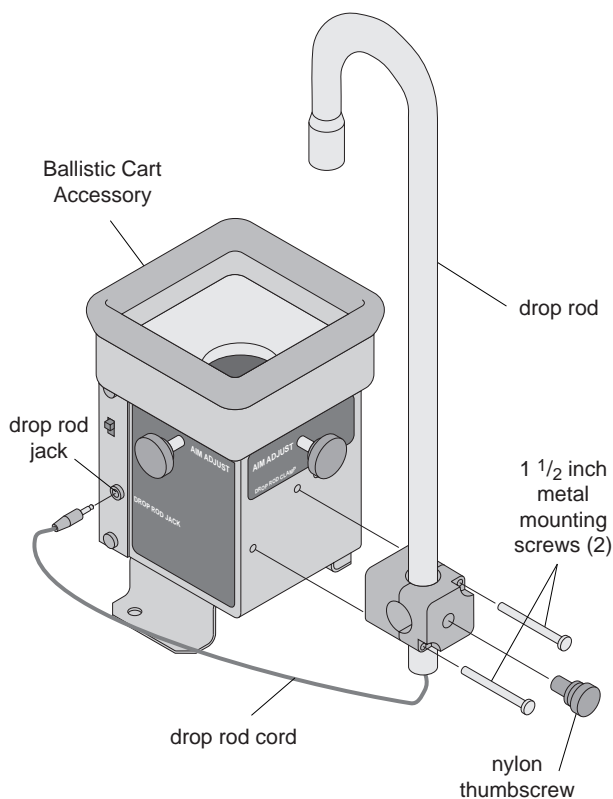
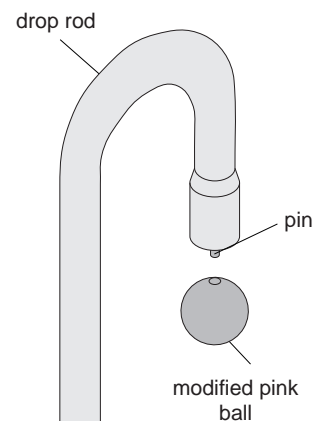

Figure 4: Drop Rod Installation.
Figure 5: Ball and Drop Rod
- ① Use the 1 1/2 inch metal screws to fasten the drop rod clamp to the side of the Ballistic Cart Accessory. See Figure 4. Screw the thumb screw into the end of the drop rod clamp.
- ② Thread the cord from the drop rod through the drop rod clamp and clamp the end of the drop rod by tightening the thumb screw.
- ③ Plug the drop rod cord into the drop rod jack on the side of the Ballistic Cart Accessory.
- ④ Note that the Drop Rod Accessory requires a special ball that has an iron insert. The balls for the Drop Rod Accessory and the Ballistic Cart Accessory are different colors so they can be easily distinguished. To hang the ball from the drop rod, the pin on the drop rod must be inserted into the small hole in the ball. See Figure 5.